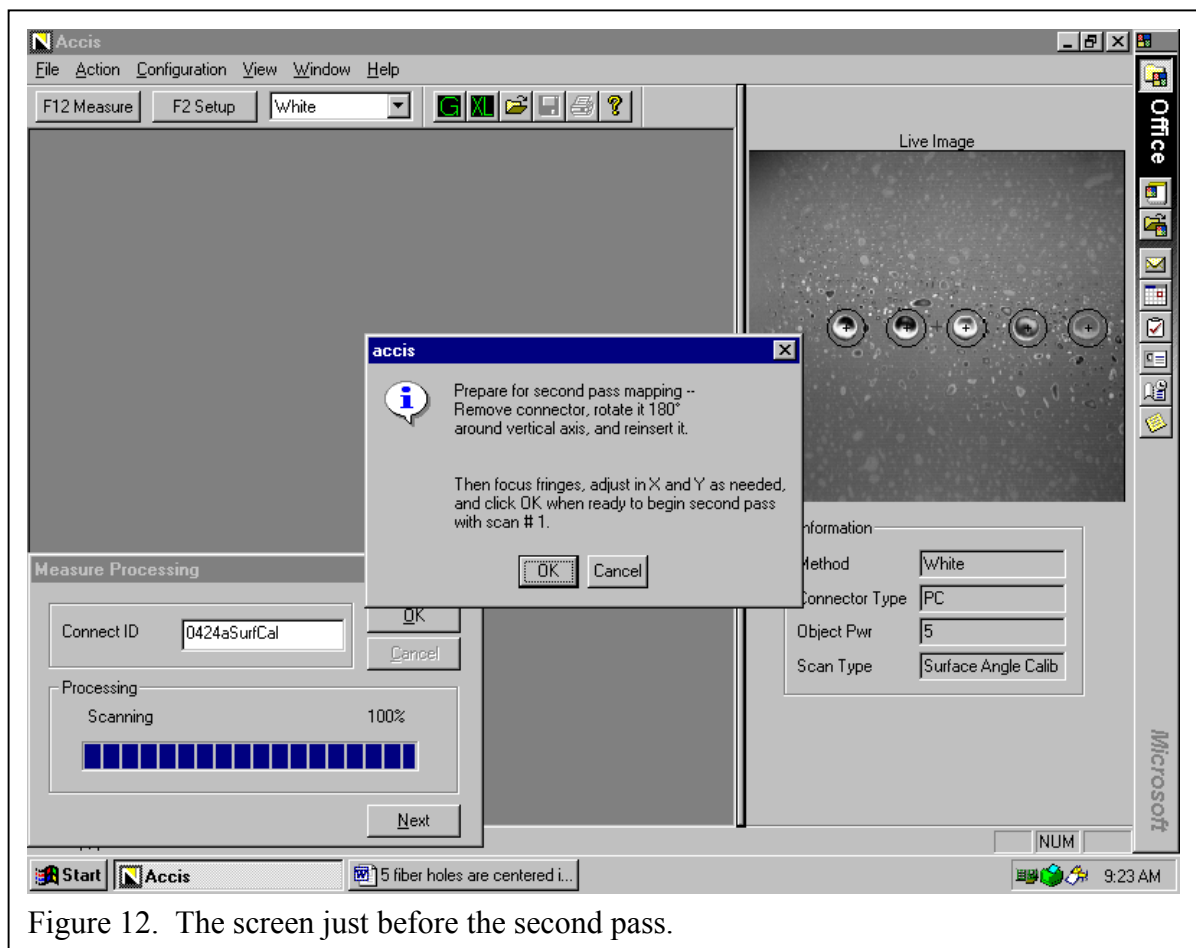

Figure 12. The screen just before the second pass.
12. During the scan. During the scan carefully, without any table vibration, enter the file name in the “Measure Processing” window, e.g., “0424aSurfCal” (date, run ID, & type of run). At the completion of this scan the message shown in Figure 12 will be displayed. Remove, rotate, carefully re-insert the standard ferrule, and re-seat it. See Step 4 above. Adjust the location of the fiber holes using the X & Y Knobs. Adjust the location of the fringes using the Focusing Knob. See Step 8 above. Press “OK” in the “accis” window.